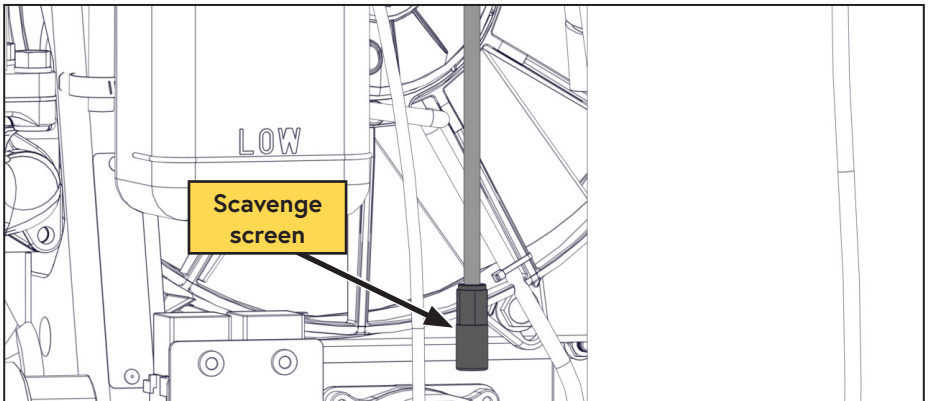

Figure 12 — Scavenge screen
- Ensure the scavenge screen is in place on the scavenge tube (Figure 12).